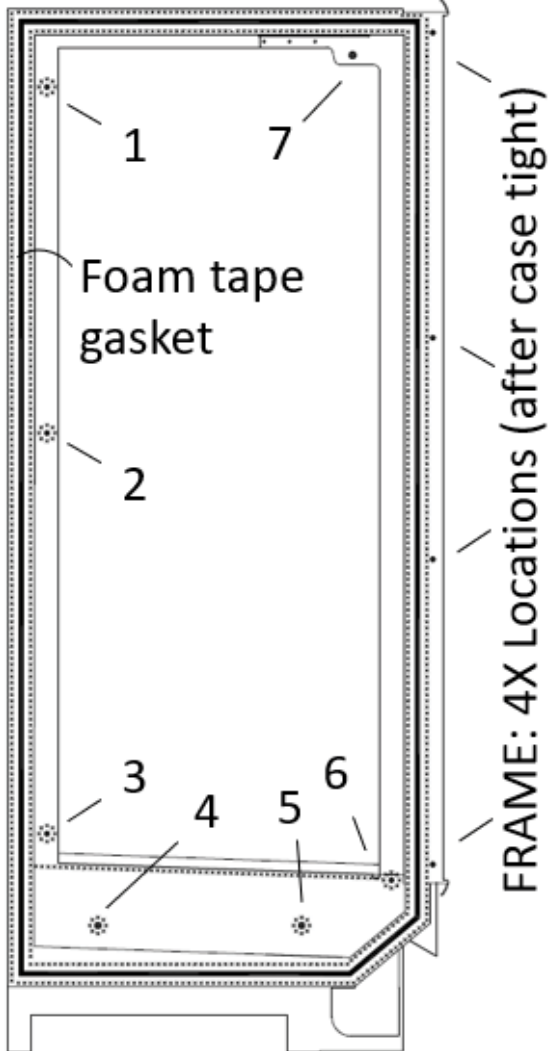

Fig. 3: Bolt holes, foam tape gasket and sealant
4. Follow the single-case installation instructions for the first case, then position the next case in the line-up approximately 3' away. Apply the foam tape gasket (supplied) and beads of butyl or silicone sealant to one of the adjoining case ends (Fig. 3). Remove the caster assemblies.
7. Push the cases tightly together, then lightly bolt them together through the holes that are provided (Fig. 3). Tighten all the joining bolts until all margins are equal. Be careful not to over tighten.